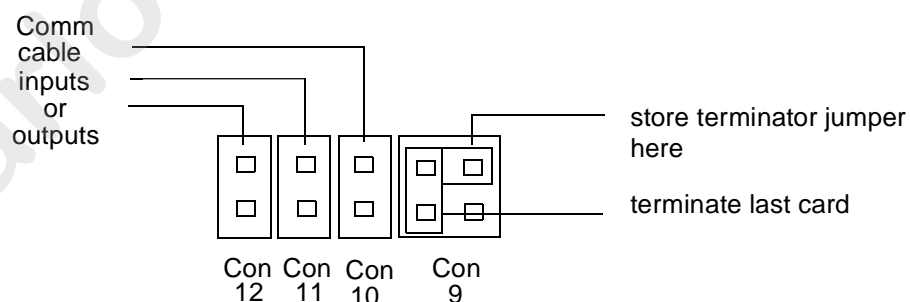

Figure 1.7. Jumper Block Expanded View
2. Locate the jumper block at the top edge of the LinkCard indicated by Figure 1.7 and Figure 1.8. There are three sets of two-pin jumpers (Con 10, Con 11, and Con 12) and one set of four-pin jumpers (Con 9). The Con 10 through Con 12 pin jumper blocks are used for communication cable inputs or outputs. The top jumpers of Con 9 are used to store the terminator when it is not needed and the first set of jumpers is used to terminate the last card if you have a Console cable that is over 100 feet.
**Master Card Only**– The top two pins of Con 9 should be jumpered. Refer to Figure 1.7. This completes the installation for master only LinkCard systems. If you have slave cards to install continue with the next paragraph, otherwise, go to step 4.